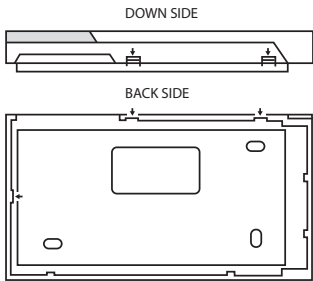

Fig. No. 3
1. Detach keypad holder from EKB3W front side . Keypad holder detach points are marked with arrows (see Fig. No. 3).